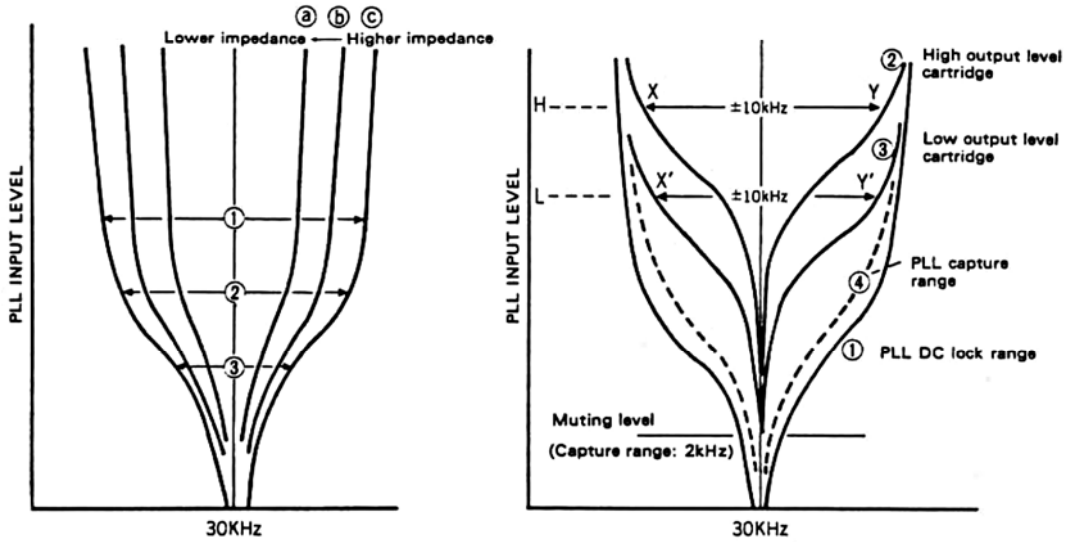

Figure 13. PLL Input Level vs. Lock Range
3. When the reproduced wave form becomes a sine wave (Figure 13) irrespective of the R001 position, FET X209 may be regarded as being open.
4. Since the rectangular waves at PLL IC pin (4) and pin (5) and the triangle wave at pin (9) are oscillation signals from VCO, they are the unmodulated 30kHz signals when no input is applied. When these waves are not formed, the IC may be defective. However, the wave forms will be out of shape if the measuring system has a large capacity.
The operation of the difference signal demodulation circuit will be explained taking the left channel of the Model CD-400 demodulator as an example (see attached circuit diagram). The 30kHz carrier modulated by the difference signal is transmitted to X201 after having been amplified by the 1/2 equalizer. The base circuit of X201 incorporates an active high pass filter with 20kHz cut-off which removes the sum signal at 12dB/oct. The sum signal component which was left unremoved here can be removed by the highly selective PLL which was designed so as to be locked only to the carrier component. There is an attenuator formed by R211 (=15 kohms) and R217 (=560 ohms) at the PLL input. The gain between PHONO input and PLL was designed to be 25dB. X207 is a control signal amplifier stage and has, at its input, a variable resistor (R001) for 30kHz level adjustment and a high pass filter. R001 is used to obtain one of the curves (2) or (3) in Figure 13 according to the cartridge used. The control signal of the FET forms a negative voltage which is rectified after amplification by X207. The source-drain resistance  $R_{DS}$  becomes open at a gate voltage of -1.5V. Starting at this voltage, the negative voltage becomes smaller as the input signal decreases.